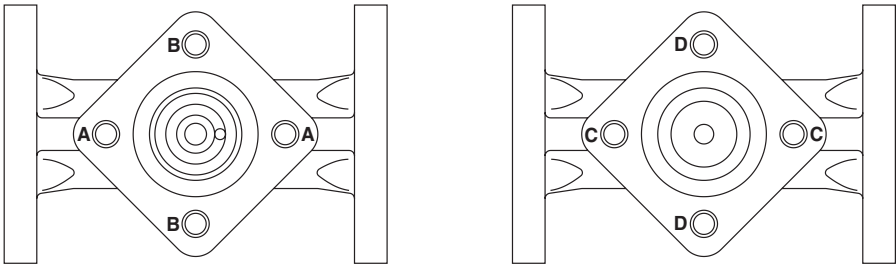

Fig. 11
The flanged TD62M and TD62LM are fitted with two different lengths of studs. It is therefore important that the correct length of stud is fitted into the correct tapped holes in the body. The studs are packed in separate labelled bags (A, B, C, D), within the spares pack. The stud holes are as marked on the diagrams in Figure 11. Fit new studs to the recommended torque (see Table 1) until they bottom out.
* **Note:** There are 2 sets of 4 studs which make-up the cover stud and nut set. They are marked 'T' for top studs and 'B' for bottom studs (see Figure 11). Care should be taken to ensure that the correct studs are fitted into the correct tappings, see Section 6.3 - Flanged connections + Figure 11.